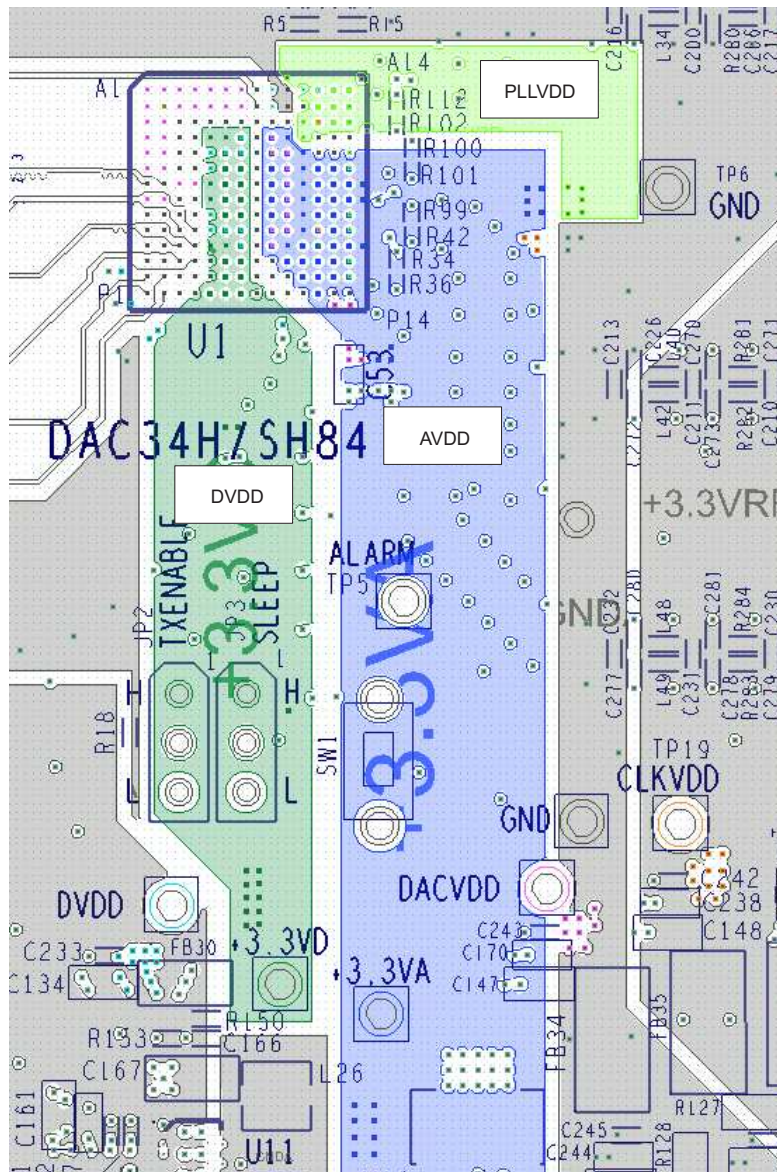

Figure 99. Sixth Layer of DAC34H84 Layout Showing Power Layers. Layout Example from DAC34H84EVM Rev H
The following layout guidelines correspond to the layouts shown in Figure 98 and Figure 99.
2. As shown in Figure 98 and Figure 99, both layers three and four are designated for power supply planes. The DAC analog powers are all in the same layer to avoid coupling with each other, and the planes are copied from layer three to layer four for double the copper coverage area.